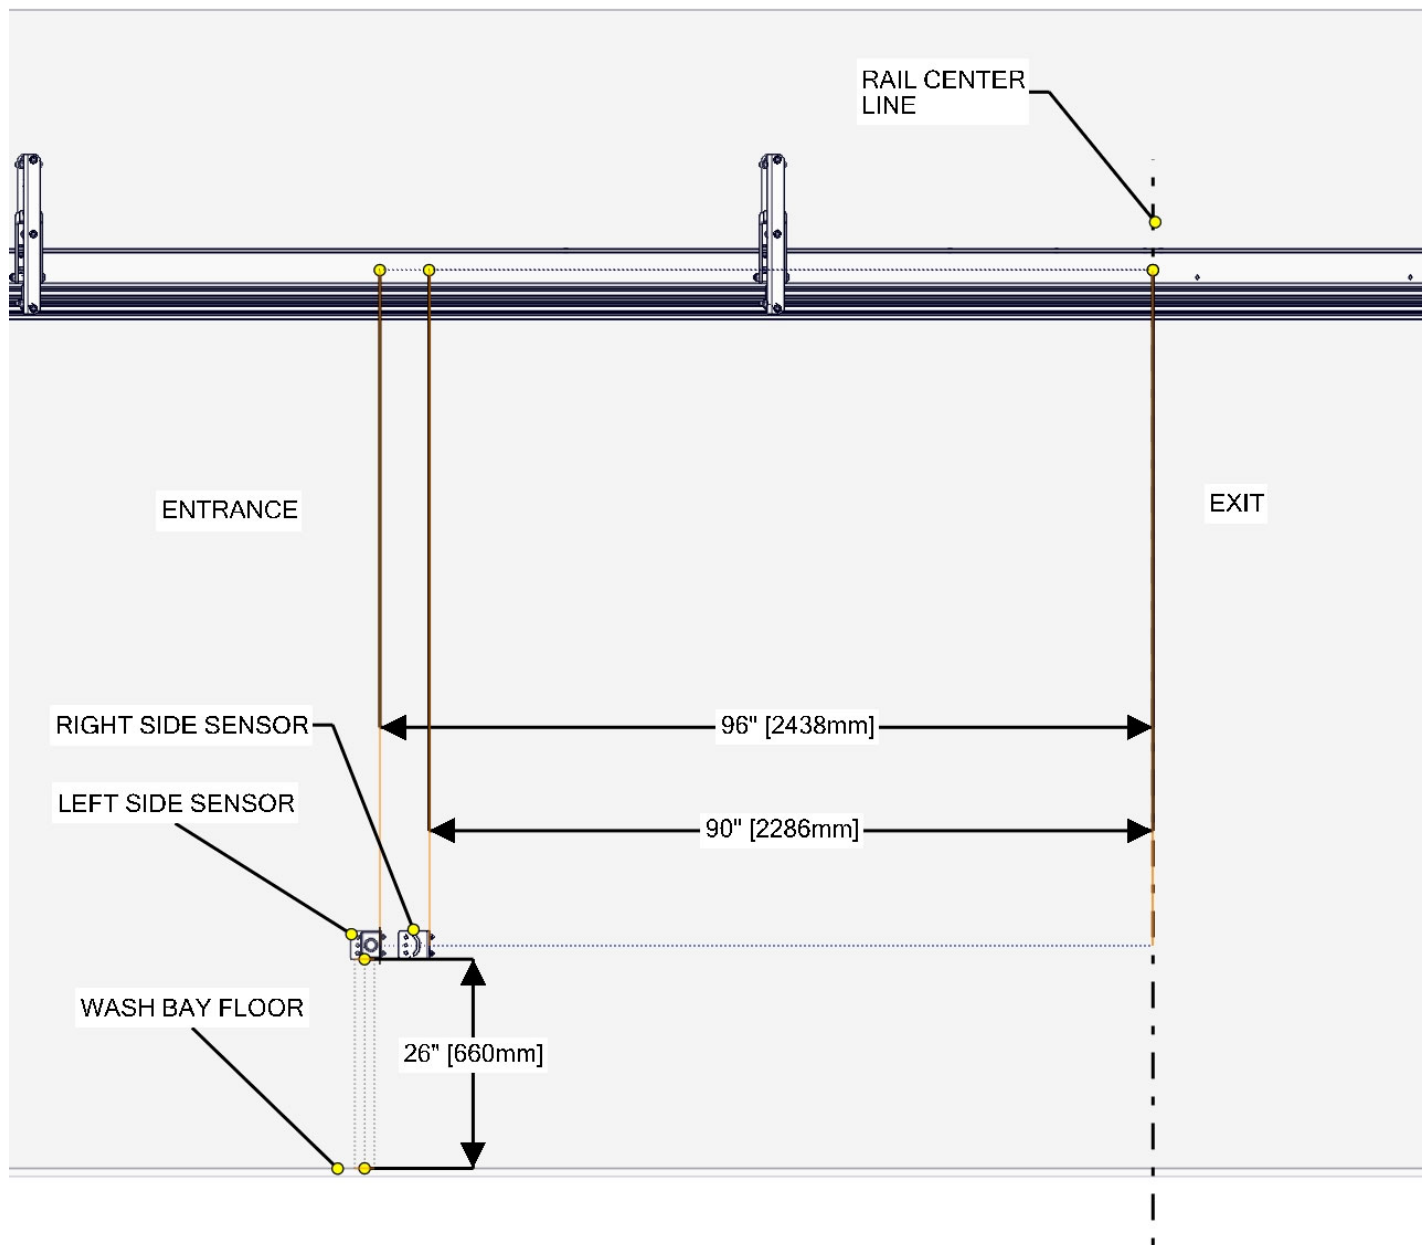

Figure 143 - Side Measurement Ultrasonic Locations
- Wall mounted or stand mounted sensors are installed in the wash bay per the dimensions shown in Figure 143. Regardless of if the sensors are wall mounted or stand mounted, the location for mounting uses the same dimensions from the main rail centerline as shown in Figure 143.